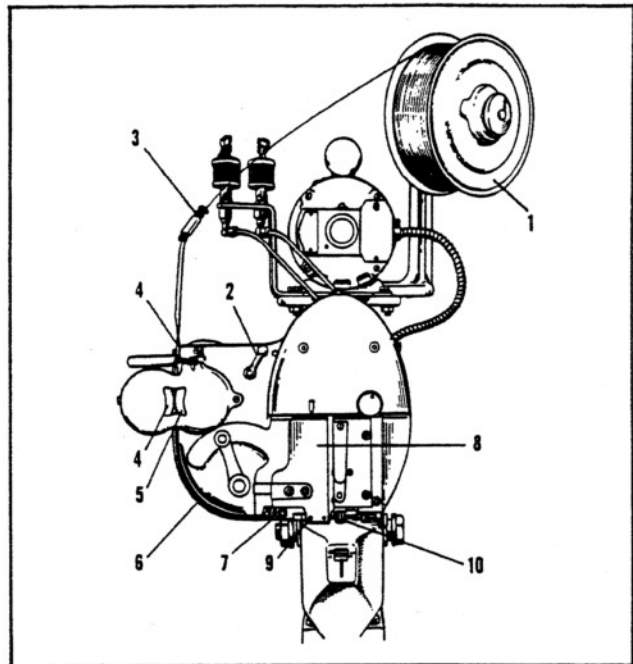

Figure 4
3. Turn the feed control lever (Index 2, figure 4) COUNTER CLOCKWISE and up, to open the wire feed gears (Index 4 & 5, figure 4).
5. Thread the wire through the loop on the tension spring (Index 3, figure 4).
6. Thread the wire down into the upper wire tube (Index 4, figure 4) and through the wire feed gears and down through the lower tube (Index 6, figure 4) until the wire is seen at the tube exit.
7. Guide the wire through the wire straightener (Index 7, figure 4) and into the cutter block (Index 8, figure 4) until it passes through the cut off die (Index 9, figure 4).
Adjust Wire Straightener: To make sure that the wire will enter the mandrel (Index 10, figure 4) properly, it may be necessary to adjust the wire straightener (Index 7, figure 4). See adjustment Section K, page 13.